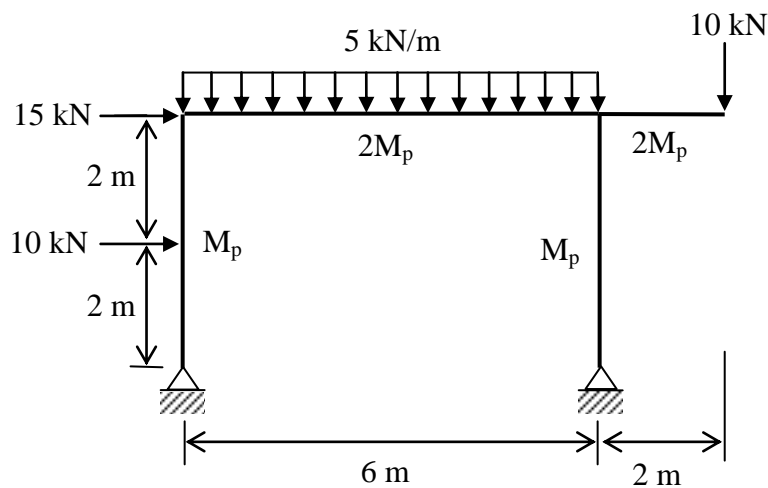

Figure 9
- (b) Sketch all possible collapse mechanisms for a rigid-jointed frame to carry the working loads as shown in **Figure 9** and determine the collapse load factor. The plastic moment capacities of all members are given in the figure where M_p is 50 kNm.